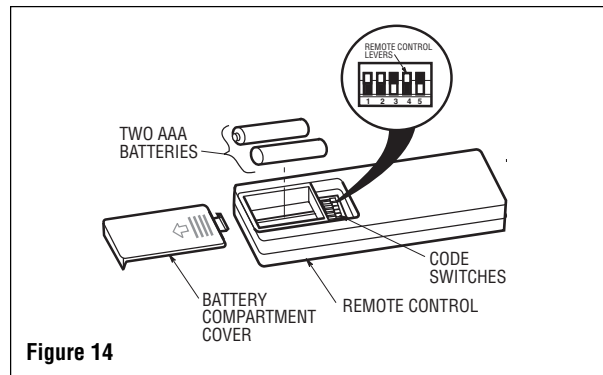
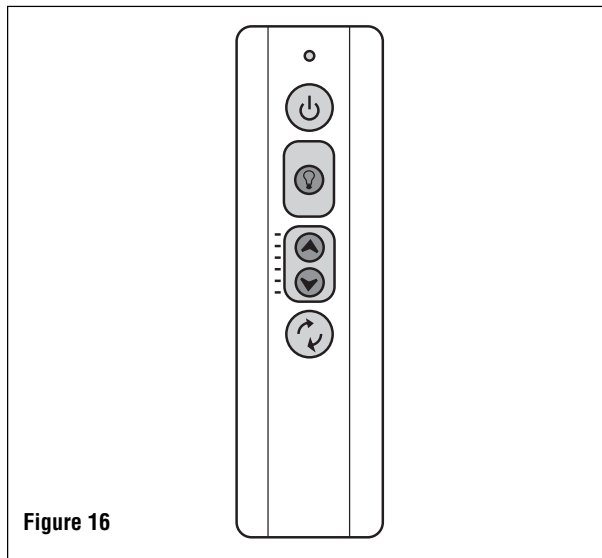

Figure 14
Figure 16
1. Remove the battery cover by pressing firmly below the arrow and sliding the cover off the control (Figure 14).
Your remote control has code switches which must be set in one of 32 possible code combinations (Figure 14). The five levers (numbered 1, 2, 3, 4, and 5) on the switches are factory-set in the ON (up) position. Change the switch settings as follows (Figure 16):